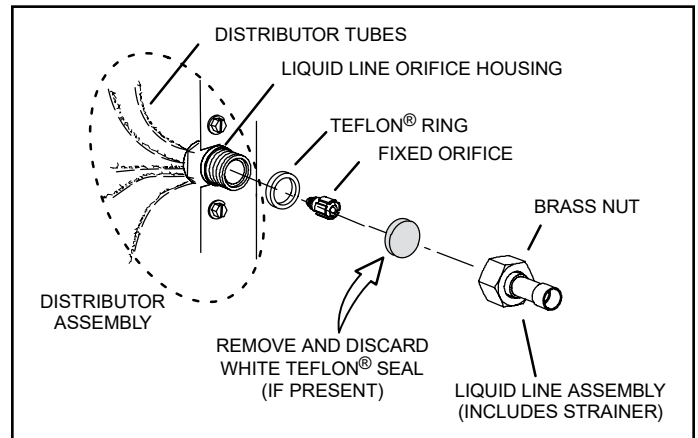

Figure 3. Remove Existing Fixed Orifice (uncased coil shown)
4. Remove and discard fixed orifice, valve stem assembly (if present) and Teflon® washer (see Figure 3).